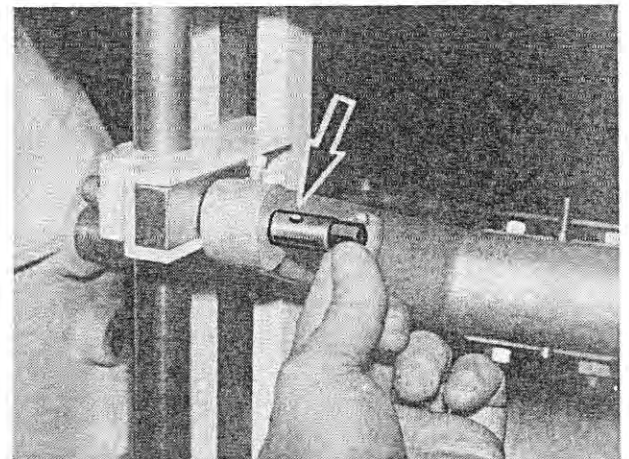

Fig. 242
3. Grasp the pouch stamp or support it and pull out the sliding pad axle (Figure 242).
Grease the sliding pad axle and install it in such a way that the recess (Figure 242/arrow) points in the direction of the locking screw. (Refer to section 1.2 for lubricants.)